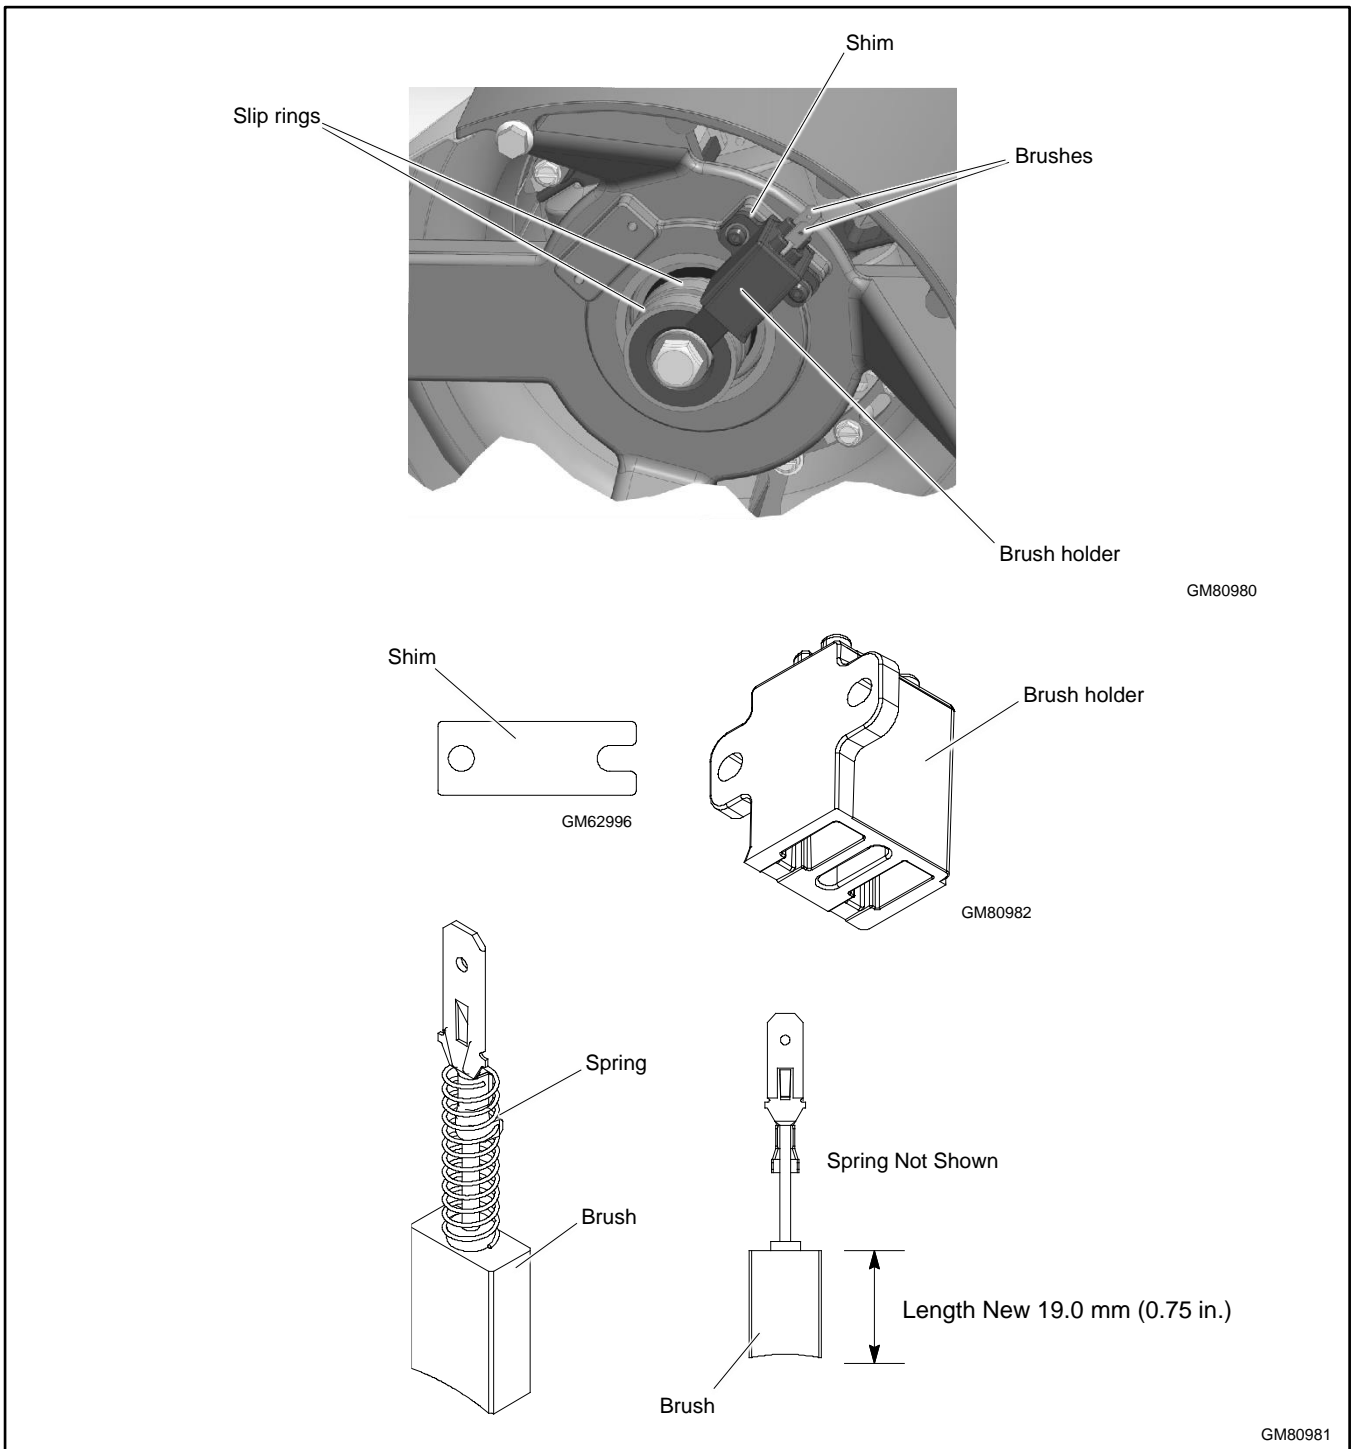

Figure 124 Brush Assembly
28. Check the brushes. See Figure 124.